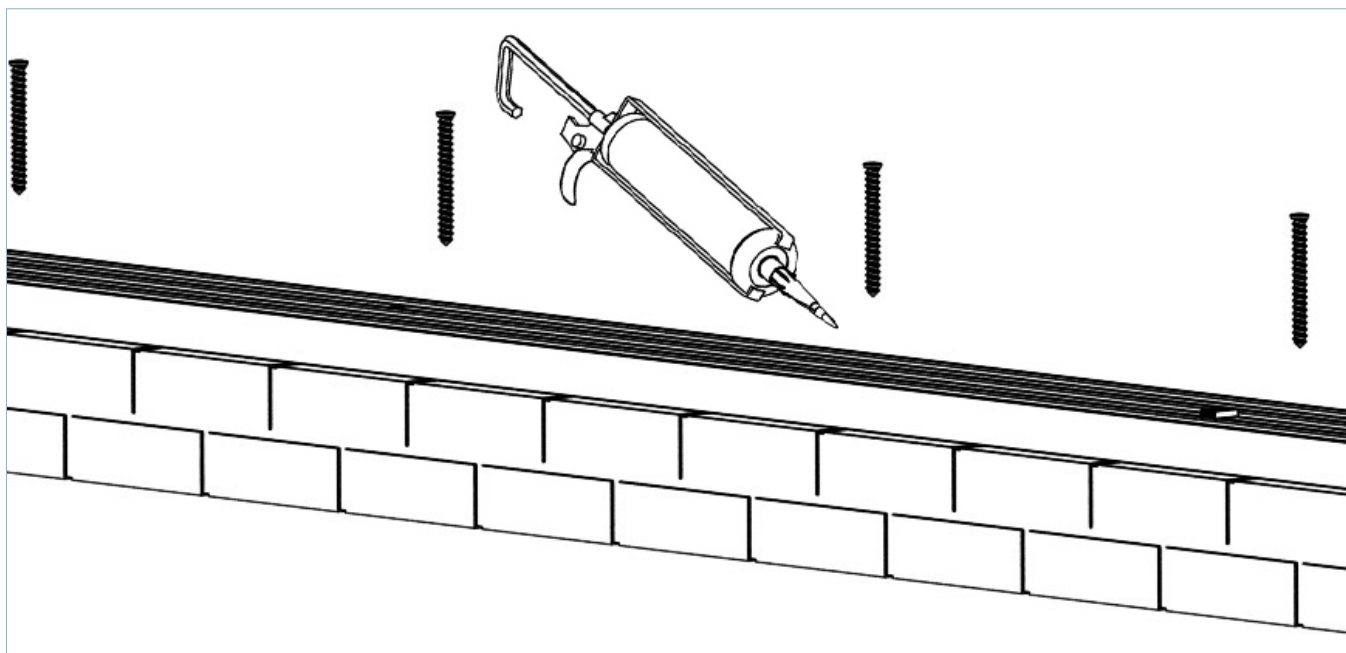

FIG 12
4. Jambs must be plumb and straight – pack as necessary when fixing to avoid bowing or twisting (FIG 12 - 15)